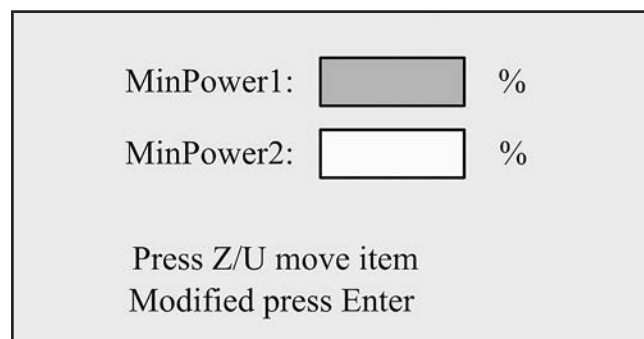

Figure 105. Example of "Min-Power" screen.
8. Press Min-Power button. Min-Power setting screen will open (see **Figure 105**).